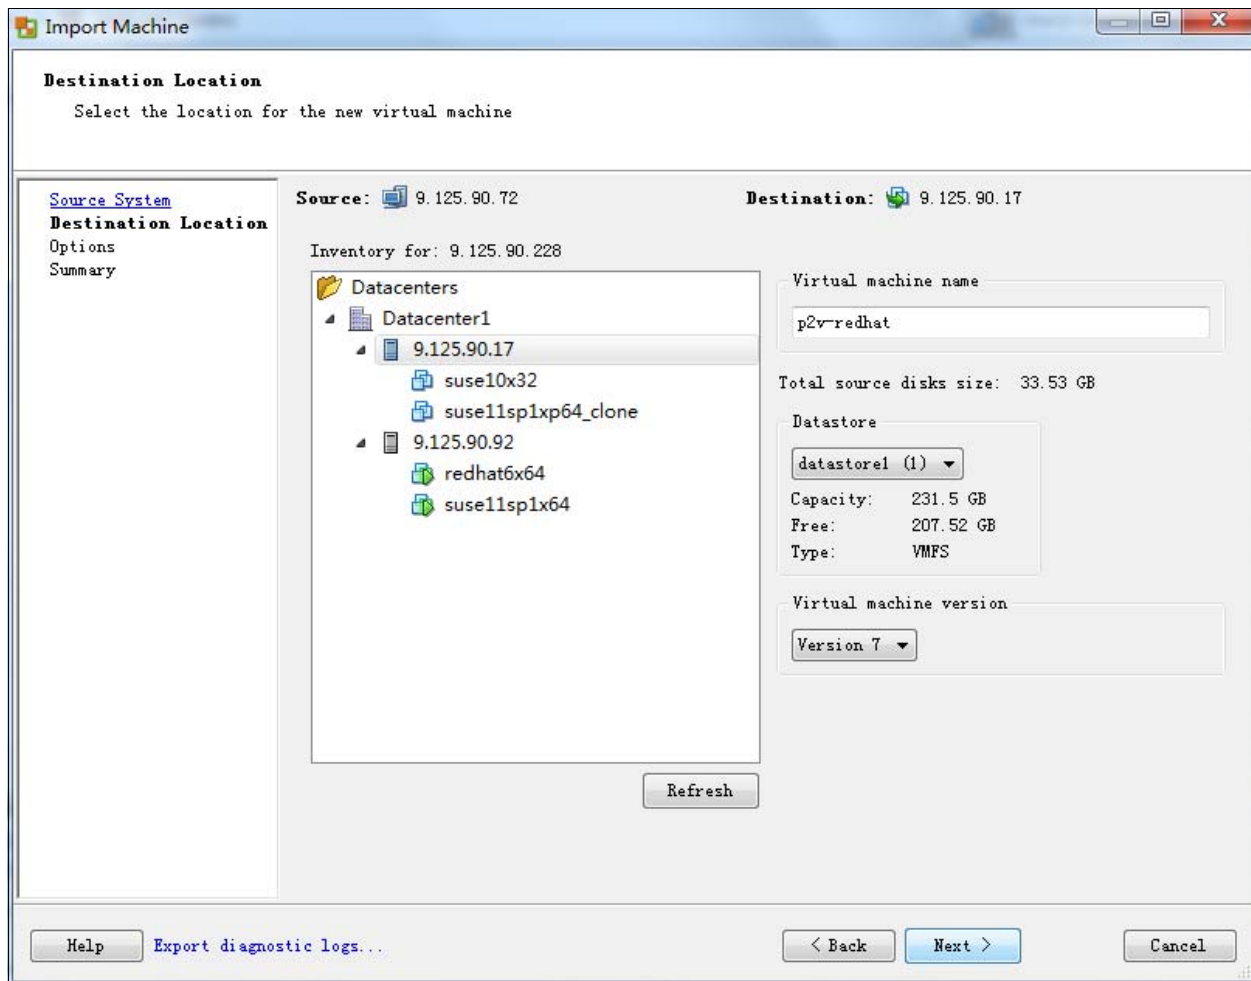

Figure 3-38 Import Machine wizard: Destination Location
6. Confirm the destination location, as shown in Figure 3-38.